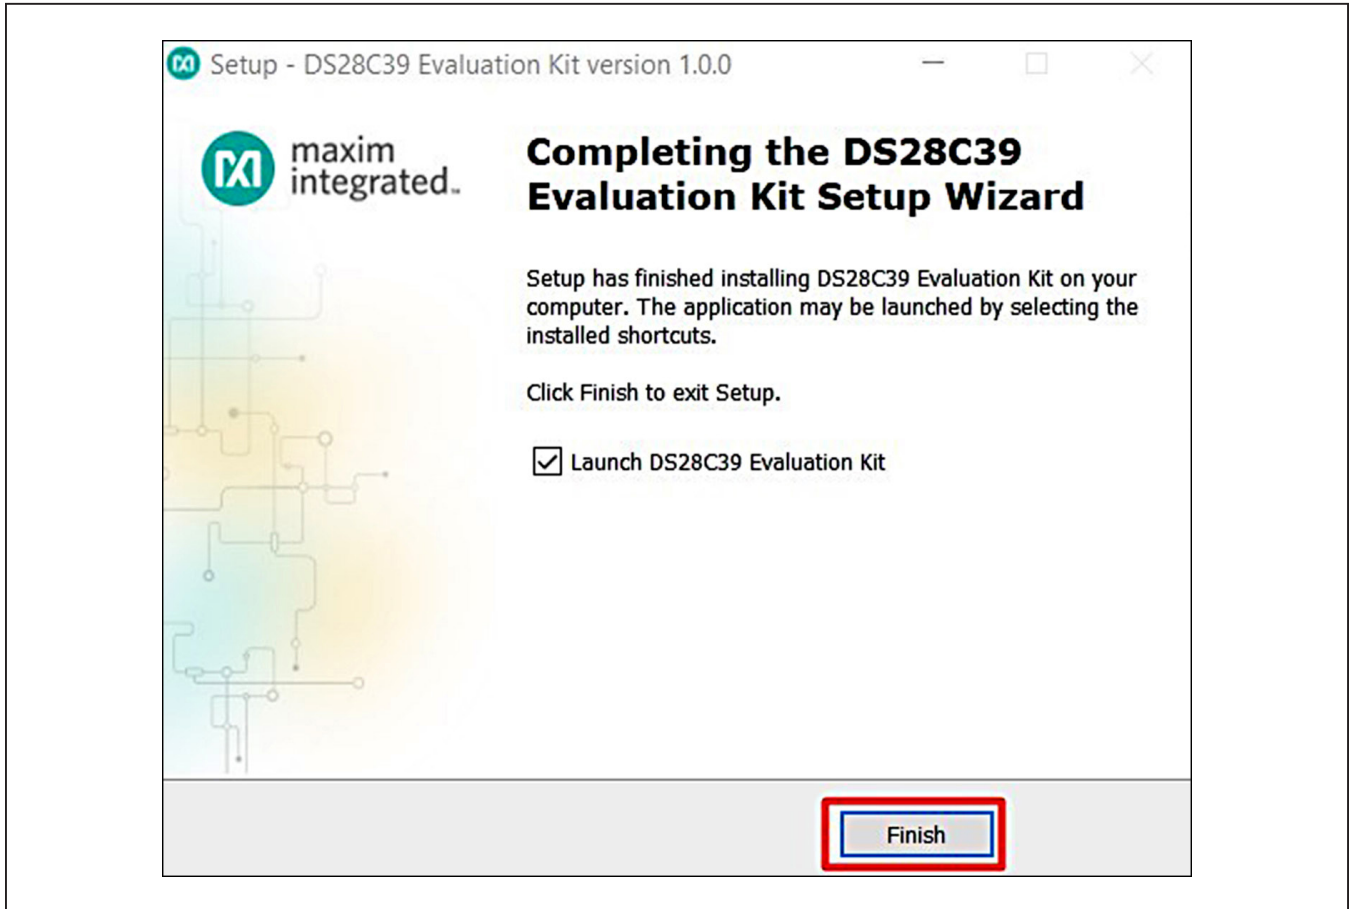

Figure 10. Software Installation Finished
10) Click on **Finish** to close the final window and confirm the software is installed correctly (Figure 10).